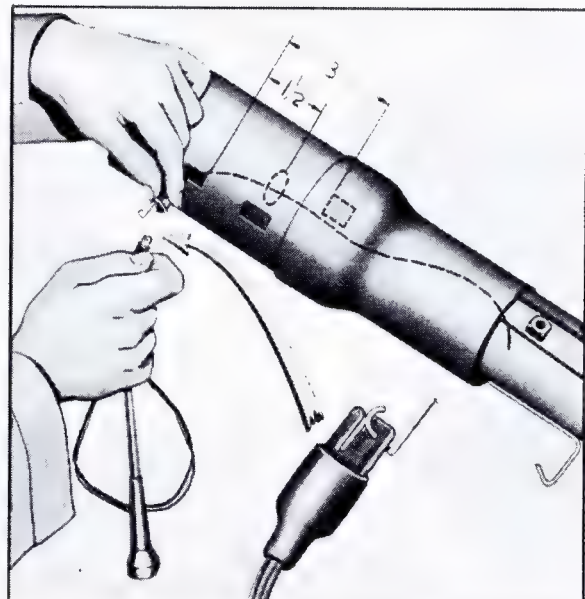

Fig. 9-45 Removing Cruise Control Harness
- b. Attach a long piece of piano wire to connector on Cruise Control harness, Fig. 9-45.
a. Connect Cruise Control harness connector to piano wire used on removal, Fig. 9-45.